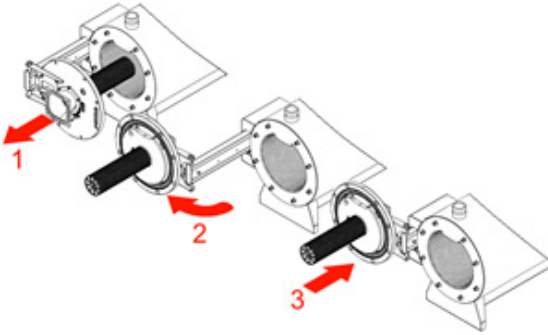

Figure 29: Burner Door
- iv. The unit is equipped with a sliding mechanism shown in Figure 29. Position (1) shows the burner assembly sliding out of the combustion chamber; (2) rotate away from the combustion chamber and (3) sliding back to allow full access to the combustion chamber for inspection and service.